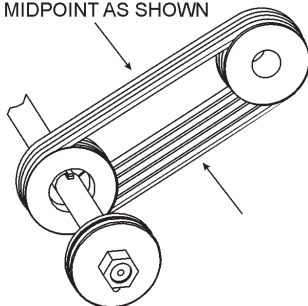

Figure 54. V-Belt Adjustment/Tension
1. Remove the **Belt Guard** (Pointers and Covers Assy., item 15), then loosen the tension of the V-Belts
2. Loosen the (4) 1-1/2" HHC screws (Engine Mount Assy., item 5).
3. Loosen and back-off the **Engine Mount Carriage Bolt** (Engine Mount Assy., item 1) from the frame to permit the **Engine Base Plate** (Engine Mount Assy., item 9) to pivot.
7. Adjust for the correct V-belt tension (See Figure 54).